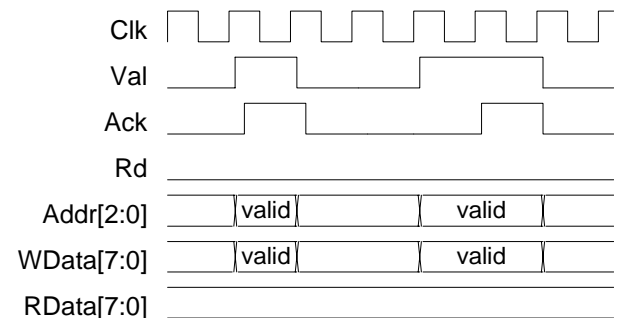

Figure 3: Example processor write cycles
The waveforms in Figure 3 show two separate write accesses. Again, in the first access the peripheral asserts the Ack signal soon after the Val signal has gone high (using combinatorial logic) and the write cycle is complete in 1 Clk cycle.
The StdUart core always behaves like the first write access in Figure 3, with the Ack signal just being the Val signal fed back to the processor.
- Although the StdUart core's write access always behaves like the first access in Figure 3, it is advisable that any bridge logic is able to handle the extended version of the accesses also, as they may be used in future versions of the core.